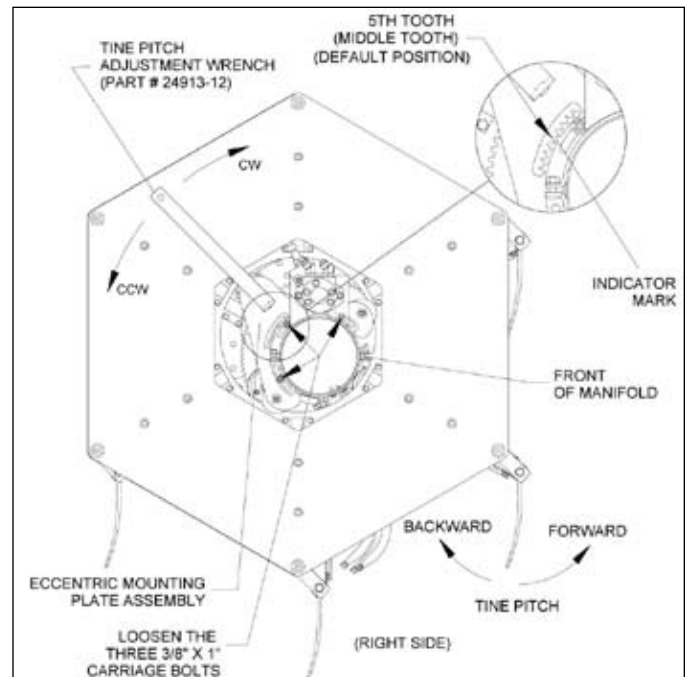
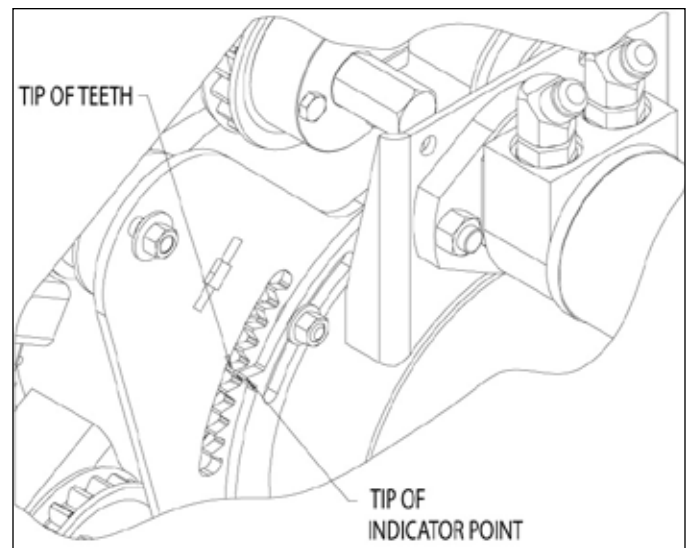

Figure 39, Tine pitch adjustment
Figure 40, Reel tine adjustment teeth
1. From the right side of the machine, loosen the three 3/8" X 1" carriage bolts securing the eccentric mount plate assembly to the RH end Clamp (Figure 39).
2. Insert the tine pitch adjustment wrench into the compatible cutout on the side of the eccentric mount plate assembly (as shown in Figure 39). The default pitch angle is with the 5th tooth (middle tooth) on the eccentric mount plate assembly aligned with the indicator mark on the RH & LH end clamps (Figure 40).
3. From the RH side of the machine, move the tine pitch adjustment wrench CCW to change the tine pitch forward. Move the tine pitch adjustment wrench CW to change the tine pitch backward (Figure 39).
5. From the LH side of the machine, follow steps 1 & 2, then move the tine pitch adjustment wrench CCW to change the tine pitch backward. Move the tine pitch adjustment wrench CW to change the tine pitch forward (Figure 39).
Although the adjustment can be made anywhere along the adjustment slot, aligning the teeth tips with the indicator point, allow you to better identify the position of the reel tine adjustment for both sides (Figure 40).